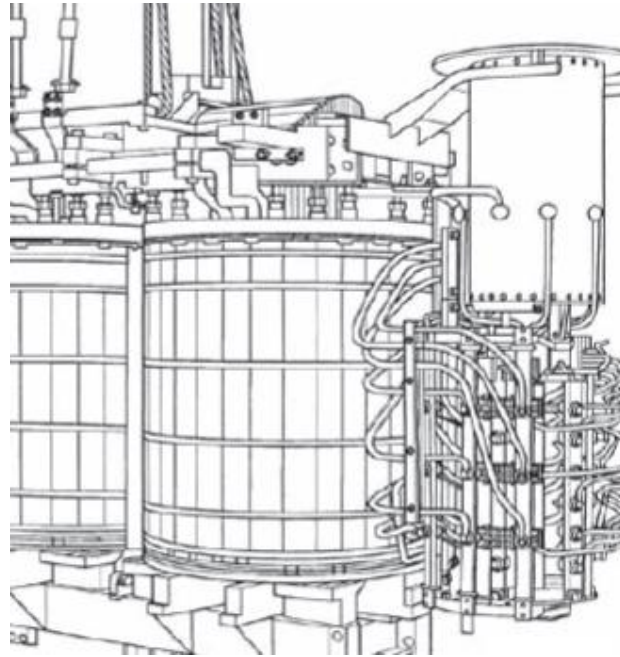

Figure 17
4.2 Installation of on-load tap-changer on bell-type transformer (Fig. 17)